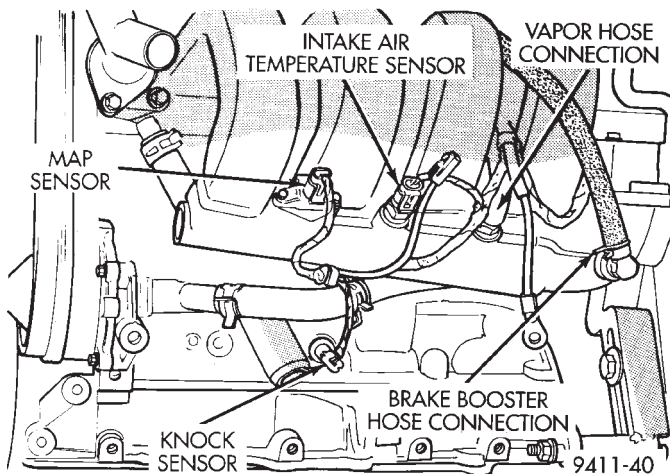
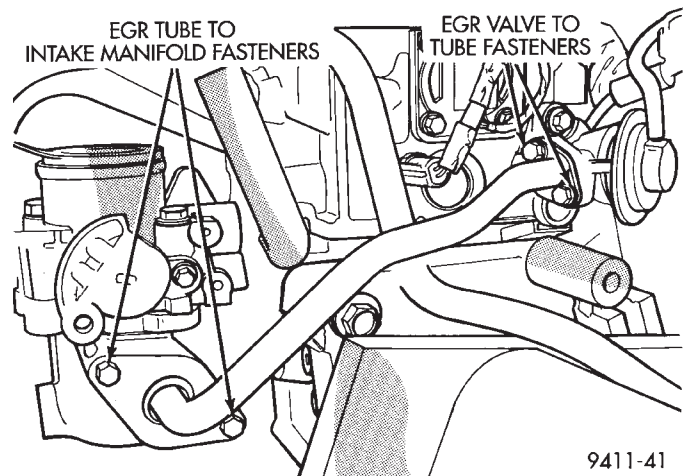

Fig. 22 Intake Manifold Electrical Connectors and Vacuum Hose Connections
Fig. 23 Tube Assembly—Typical
(8) Disconnect intake air temperature electrical connector. Disconnect leak detection pump and PCV hoses (Fig. 22).
(9) Disconnect knock sensor electrical connector and disconnect wiring harness from tab located on the intake manifold (Fig. 22).
(10) Remove transaxle to throttle body support bracket fasteners at the throttle body and loosen the fastener at the transaxle end.
(11) Remove EGR tube bolts at the valve and at the intake manifold (Fig. 23). Remove tube from engine and discard gaskets.